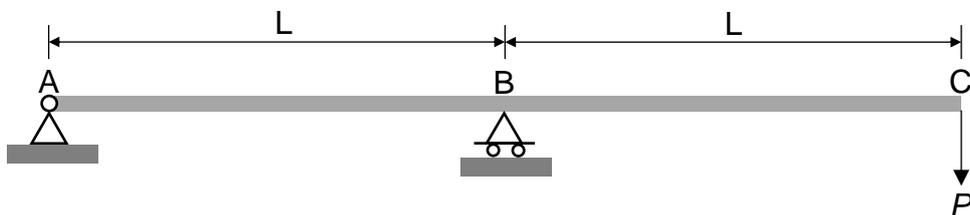

Figure Q4: Beam loading.
4. A beam (ABC) is to be used to lift a point load (P) as shown in Figure Q4. The beam itself weighs $w \text{ N m}^{-1}$, has a 2nd moment of area, $I \text{ m}^4$, and Young's modulus, $E \text{ Pa}$. It is attached to a fixed support by a pin-joint at A and is simply supported at B.
- (b) Derive expressions for the bending moment (M) in each section of the beam, in terms of the distance x from A. [4 marks]